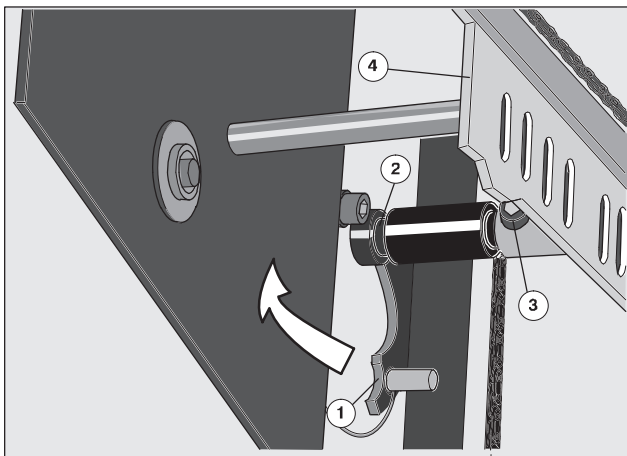

Fig. 6 Lateral sheet jogger
2. Inch the press until the lateral sheet jogger on D.S. (Fig. 6/4) has reached the outer turning point.
4. Move the lever (Fig. 6/1) up and let engage in the groove (Fig. 6/2). The lever is kept in its position by spring pressure. The movement of the sheet jogger is disengaged.
5. Loosen the Allen screw (Fig. 6/3) and set the sheet jogger (Fig. 6/4) on D.S. against the print sheet.
6. Retighten the Allen screw (Fig. 6/3).
2. Press lever (Fig. 6/1) downwards up to stop.
2. Loosen the screw (Fig. 6/3) with the operator tool and readjust the sheet jogger on D.S. (Fig. 6/4) to the sheet size.
3. Retighten the Allen screw (Fig. 6/3).